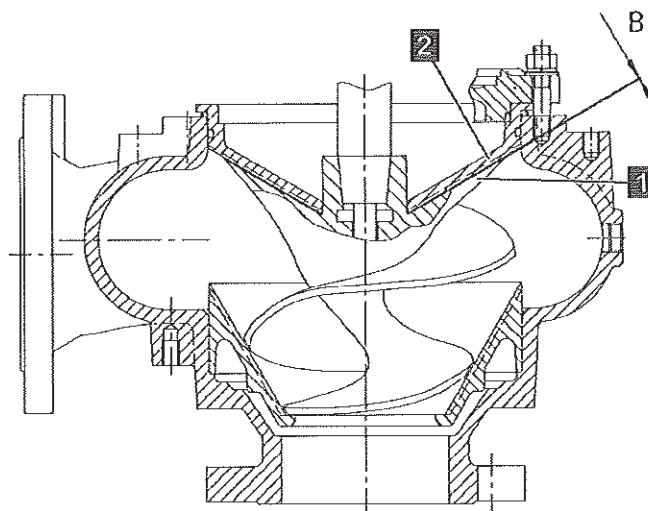

Fig. 72
2. ➤ Measure clearance "B" (Fig. 72) between impeller and rear cone or seal via feeler gauge at several points in the circumference.